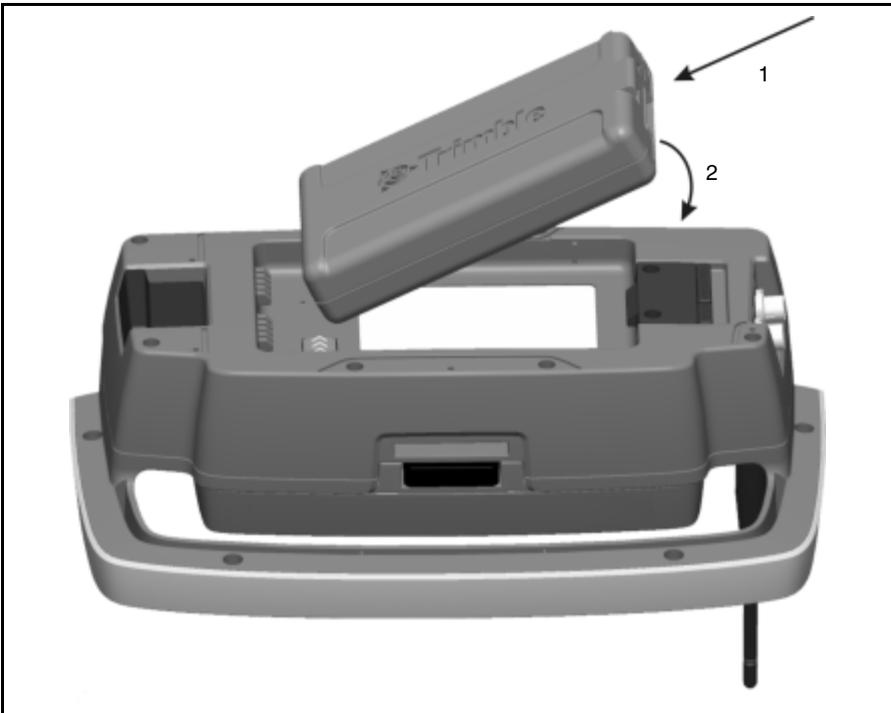

Figure 7.57 Attaching a battery to the Trimble Robotic Holder
1. Fit the battery on to the hooks on the holder (1).
2. Push the battery on to the holder until it clicks into place (2). See figure 7.57